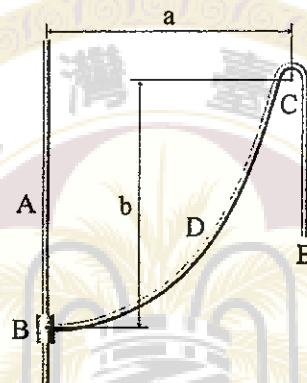

Fig. 3
3. The slider  $B$  can slide along the fixed rod  $A$  vertically as shown in Fig. 3 below. The flexible chain  $D$  of total length  $L$  having a weight per unit length of  $w_0$  is attached to the slider  $B$  horizontally and passes over a small fixed pulley  $C$ . The mass  $E$  of weight  $W$  is hung at the right end of the chain  $D$ . The maximum load that can be carried between the chain  $D$  and the slider  $B$  is  $F_0$ . Neglecting the effect of friction, determine (a) the maximum weight  $W_{max}$  of the mass  $E$ ; and (b) the value of distance  $b$  under the condition in (a), for which the chain  $D$  is in equilibrium.